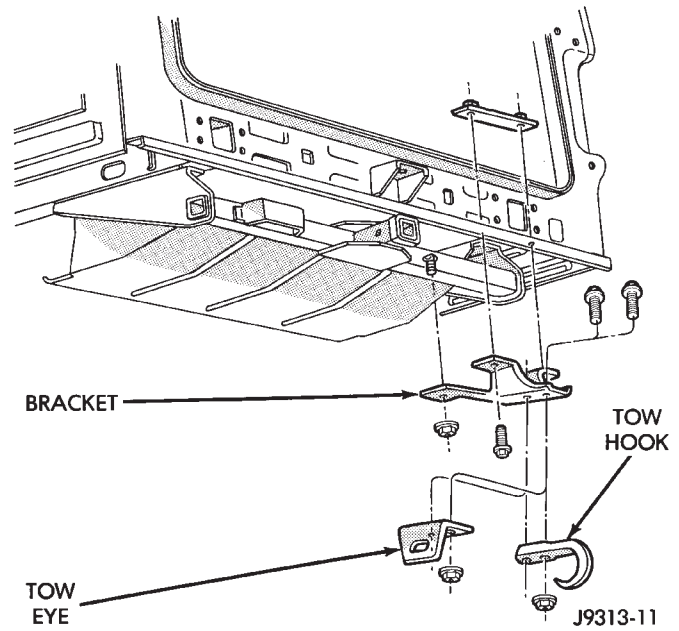

Fig. 7 Tow Hook Removal
- (1) Remove the nuts and bolts that attach the tow hook to the lower crossmember (Fig. 7).
- (2) Remove the tow hook from the lower crossmember (Fig. 7).
- (1) Position the tow hook at the lower crossmember. Install the bolts and nuts that attach tow hook (Fig. 7). Tighten the retaining nuts to 100 N•m (74 ft-lbs) torque.